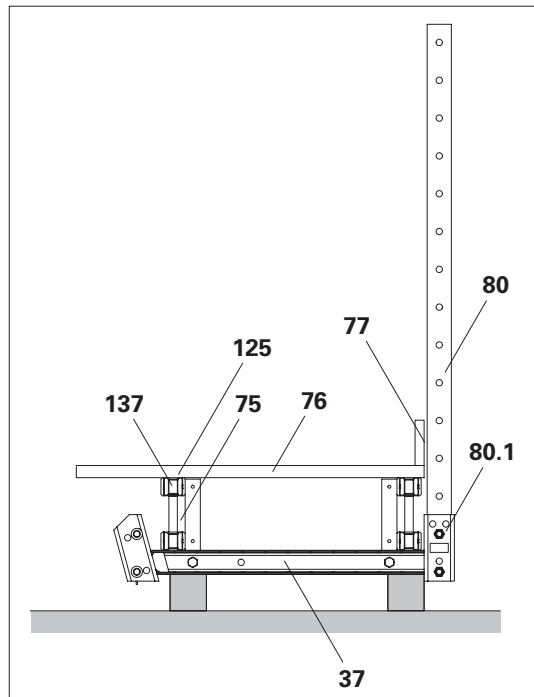

Fig. C1.09
4. Screw the Guardrail Post RCS/SRU (**80**) to the concreting platform with the 2x hex. bolts M20 x 100 (**80.1**) and nuts supplied. (Fig. C1.09)